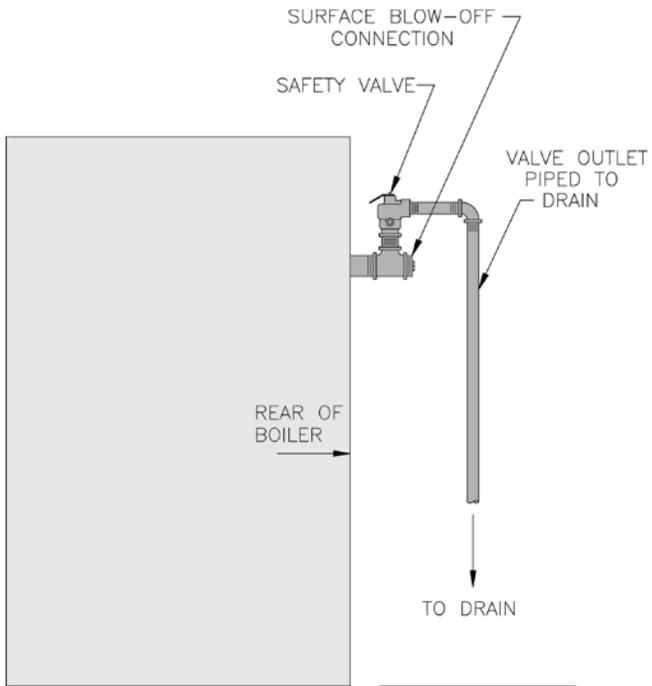

Figure 43: Steam Boiler - Safety Valve Hook-Up
- Oil, greases & sediments which accumulate in a new boiler and piping must be removed in order to prevent an unsteady water line and carry over of the water into the supply main above boiler. Operate the boiler with steam in the entire system for a few days allowing the condensate to return to the boiler. If the condensate can temporarily be wasted, operate boiler only for the length of time it takes for condensate to run clear. If the latter cannot be achieved or if the condensate is returned to the boiler, boil out the boiler using the SURFACE BLOWOFF connection. See Figure 43.